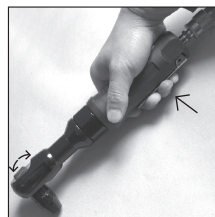

Figure 3
4. How to install/tighten threaded fasteners Push the F/R stem (Part #30) forward to "F" position. Press the trigger. Then the tool anvil runs clockwise. (See Figure 3)
5. How to remove/loosen threaded fasteners Push the F/R stem (Part #30) backwards to "R" position. Press the trigger. Then the tool anvil runs counterclockwise. (See Figure 3)